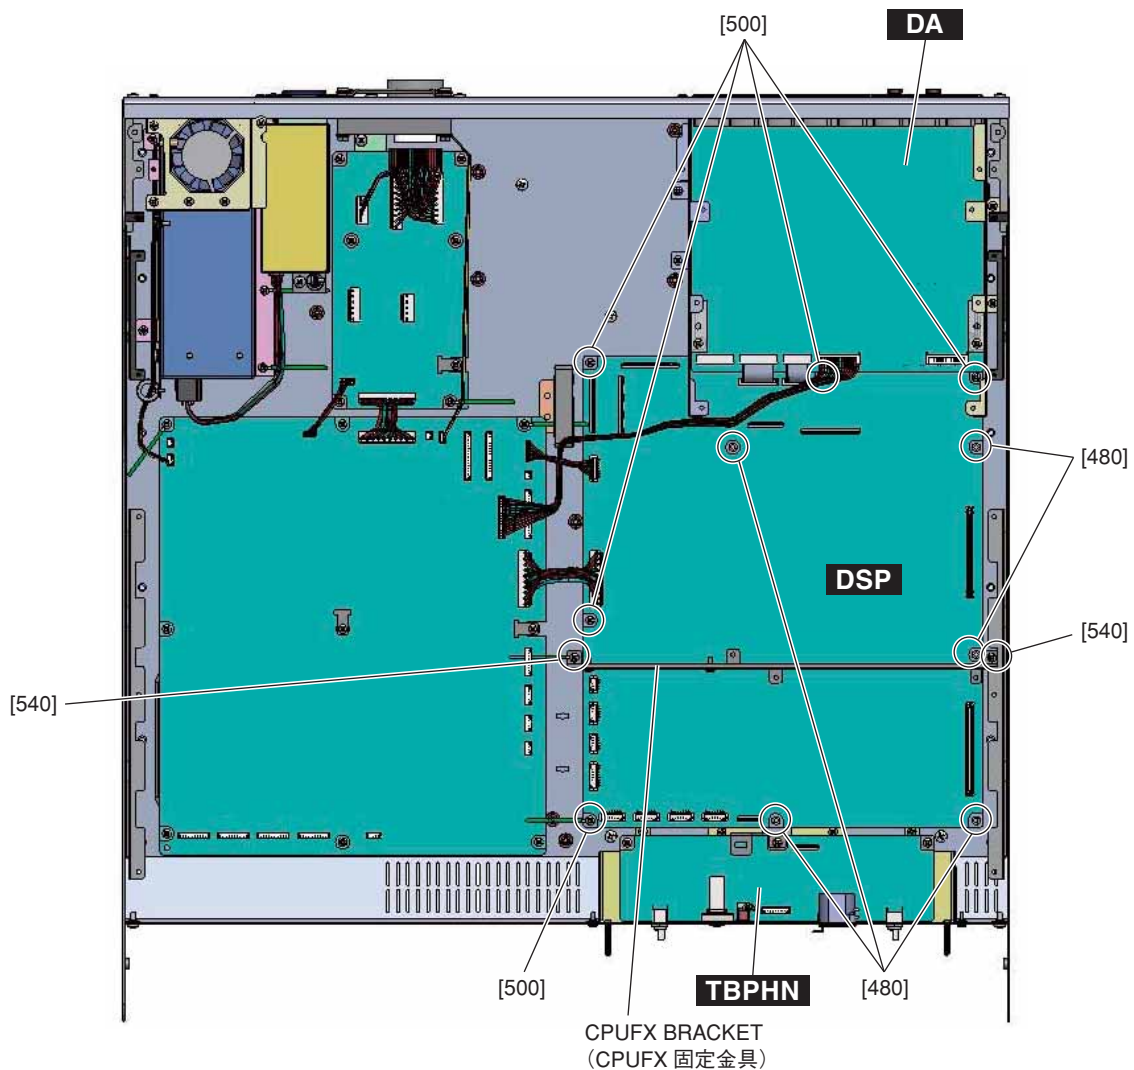

Fig. 3 (図 3)
- A-8-6. Remove the two (2) screws marked [540]. The CPUFX bracket can then be removed. (Fig. 3)
- A-8-7. Remove the five (5) hexagonal spacers marked [480] and the five (5) screws marked [500]. The DSP circuit board can then be removed. (Fig. 3)
- A-8-6. [540]のネジ2本を外して、CPUFX固定金具を外します。(図3)
- A-8-7. [480]の六角スペーサ5本と[500]のネジ5本を外して、DSPシートを外します。(図3)